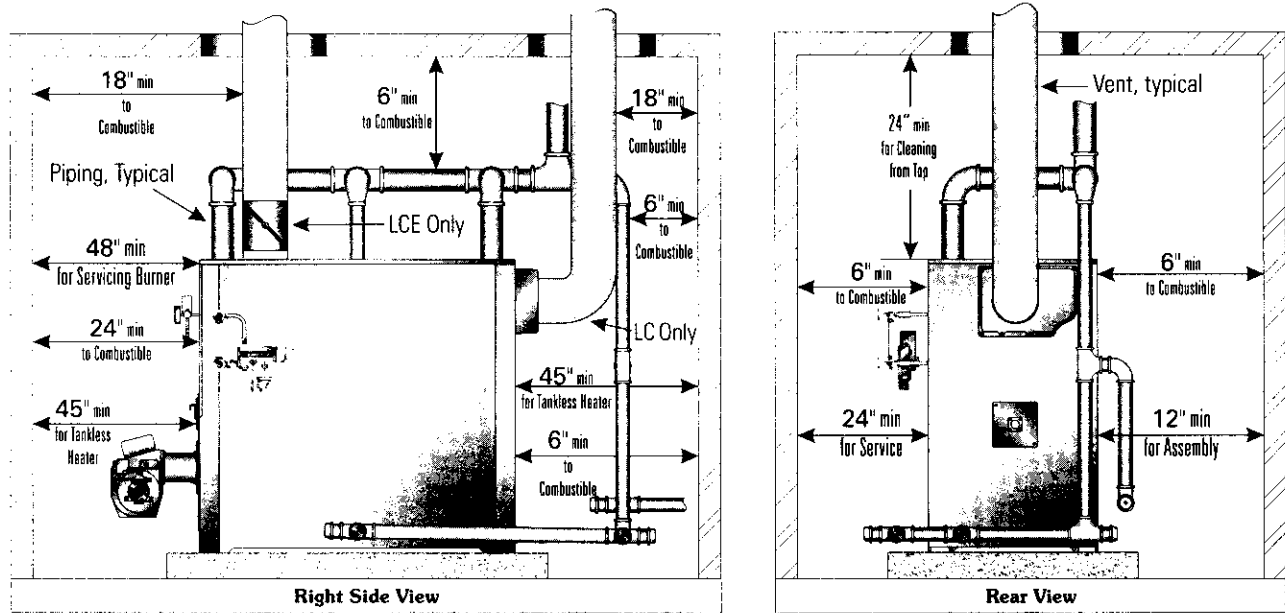

Figure 1: Clearance Requirements
1. Clearances for service and from combustible surfaces are the same for the LCE as for the LC. The following recommendations allow for *reasonable access to the boiler*. Follow local codes and requirements when setting actual layout. See Figure 1.
Provide the following *minimum clearances to combustible construction*. See Figure 1.